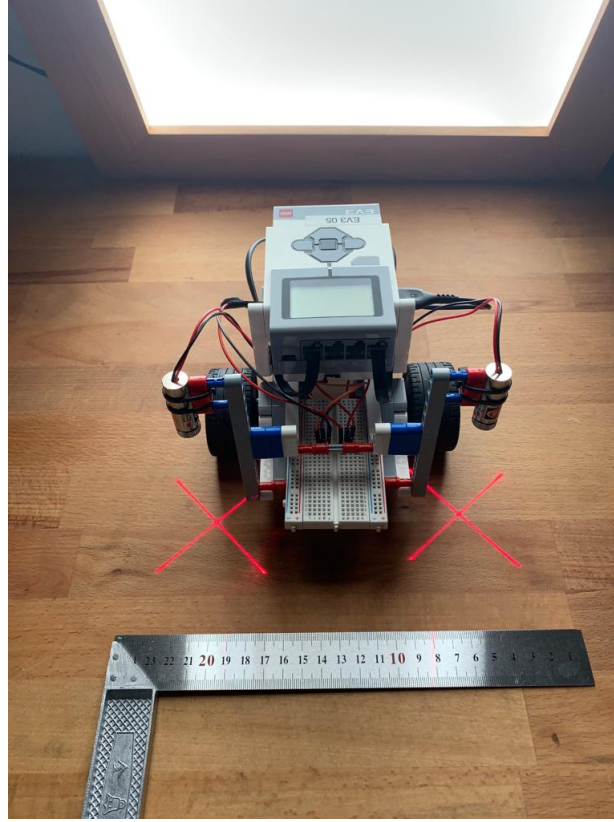

Figure 1.1: Rosa - Front View
- Our robot, 'Rosa' is designed based on the base design provided in the **Lego Mindstorms EV3**(evolution 3) kit (manual). Figure 1.1 shows our final design, with the measurement facility for the robot intact.